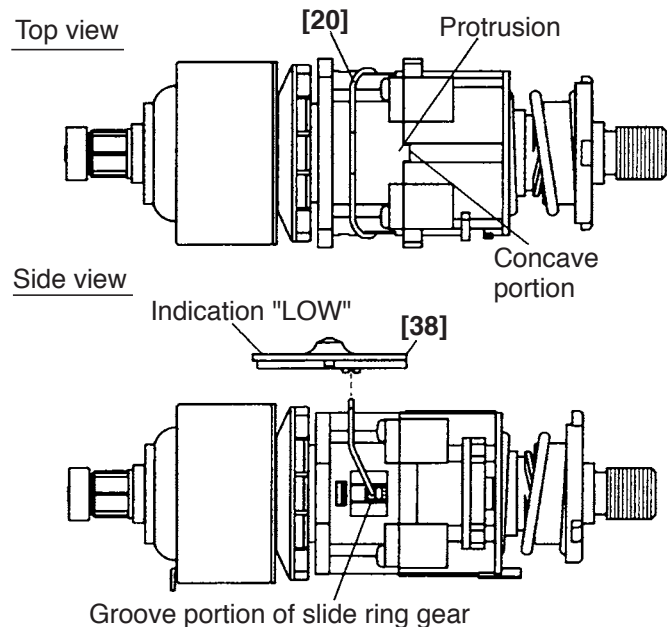

Fig. 11
- ③ Mount the Front Case [8] to the Rear Case [18] so that the concave portion of the Front Case [8] aligns with the protrusion of the Rear Case [18] (see Fig. 11).
(b) Mounting the Shift Arm [20] and the Shift Knob [38] (See Fig. 11.)